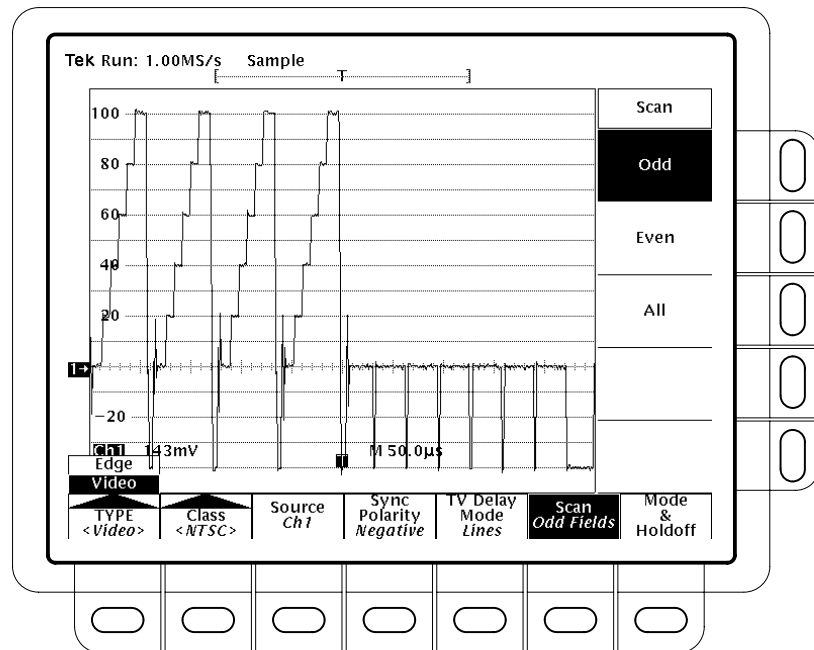

Figure 3–68: Main Trigger Menu — Video Type
Press the **TRIGGER MENU** → **Type** (main) → **Video** (side) (see Figure 3–68).
**Class**, (main) → **NTSC**, **PAL**, **SECAM**, or **Custom** (pop-up) (Figure 3–69).